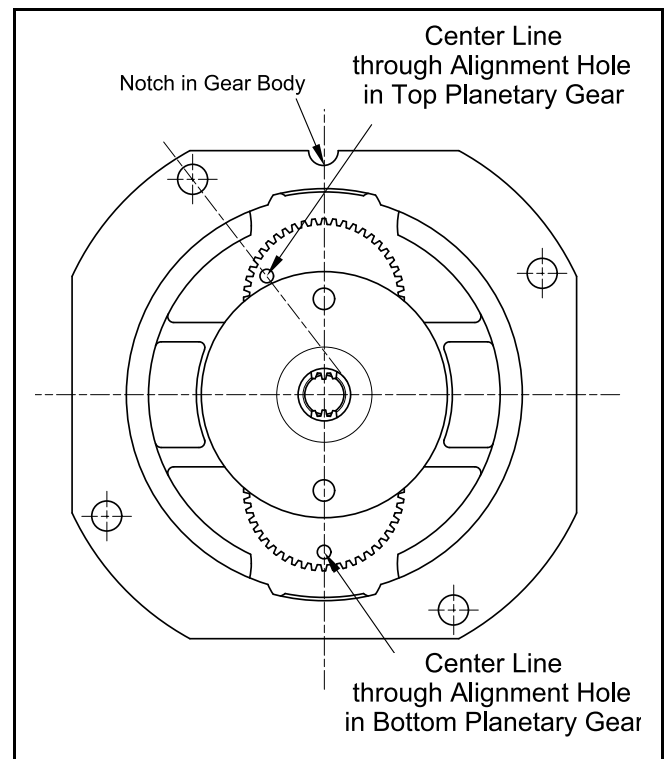

Figure 6 Position of Planetary Gears in Gear Body
3. Position the Planetary Gears in the Base as illustrated in **Figure 6**. This setting prevents wear on the motor's armature shaft.